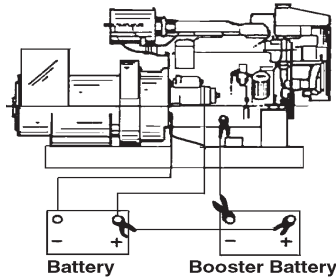

Figure 18:
- b. Screw in injector and tighten to 43 or 50 ft/lbs (6 to 7 kgm) (Figure 18).